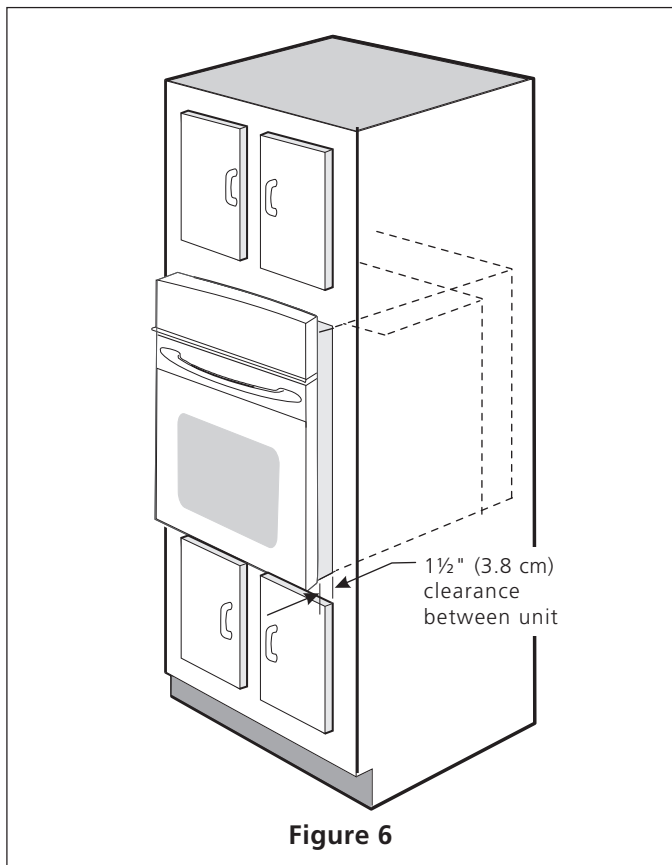

Figure 6
3. Insert the oven into the cabinet opening. Slide oven inward leaving $1\frac{1}{2}$ " (3.8 cm) clearance between the oven and front of cabinet (see Figure 6). Pull the armored cable through the hole for it in the cabinet and toward the junction box while moving the appliance inward.